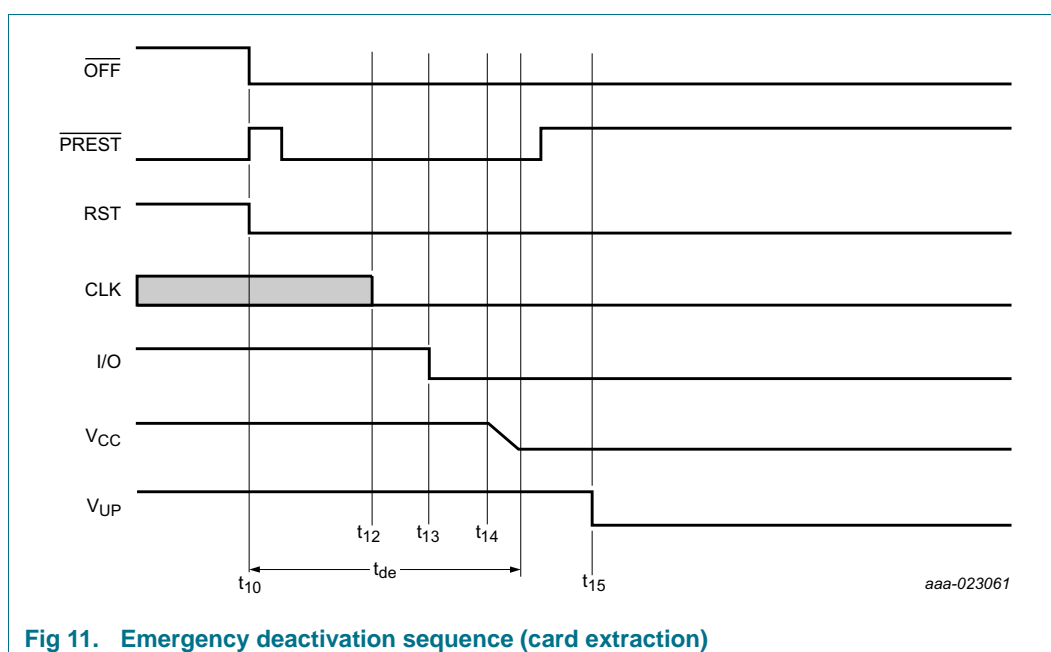

Fig 11. Emergency deactivation sequence (card extraction)
- **$\overline{\text{CMDVCC}}$  LOW within a card session.** Output  $\overline{\text{OFF}}$  goes LOW when a fault condition is detected. As soon as this occurs, an emergency deactivation is performed automatically (see Figure 11). When the system controller resets  $\overline{\text{CMDVCC}}$  to HIGH it may sense the  $\overline{\text{OFF}}$  level again after completing the deactivation sequence. This distinguishes between a hardware problem or a card extraction ( $\overline{\text{OFF}}$  goes HIGH again if a card is present).